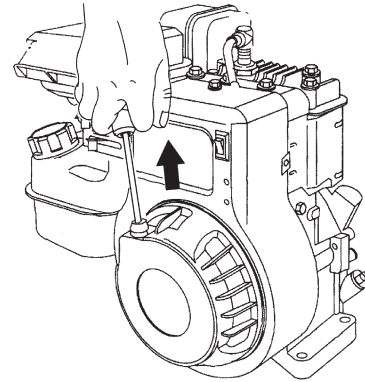

Figure 23. Starter Grip
4. Grasp the starter grip (Figure 23) and slowly pull it out. The resistance becomes the hardest at a certain position, corresponding to the compression point. **PULL** the starter grip briskly and smoothly for starting.